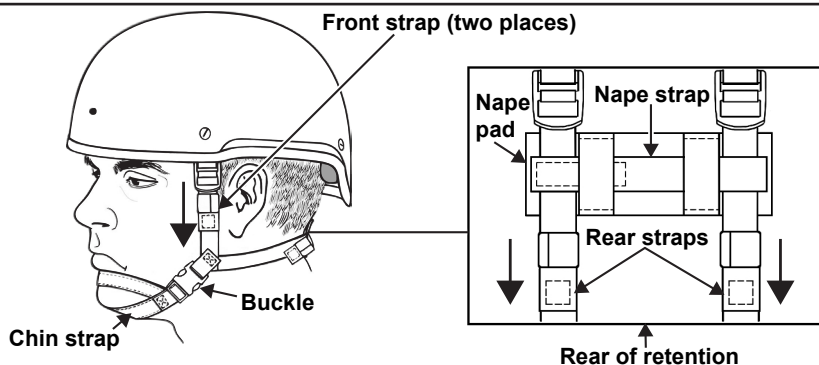

Figure 13. H-style Retention Adjustment
1. Position the helmet on the head and buckle the chin strap (**Figure 13**). Hold the helmet in place with one hand on top of the head.